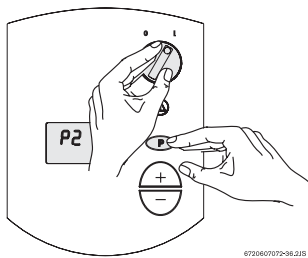

Fig. 41
- ▶ While holding the Program (P) button, turn the ON/OFF switch to ON (I) position (see Fig. 41). As soon as '188' flashes on the display, release the Program button. The display should now read P2. Press Δ button until "P1" appears on display.